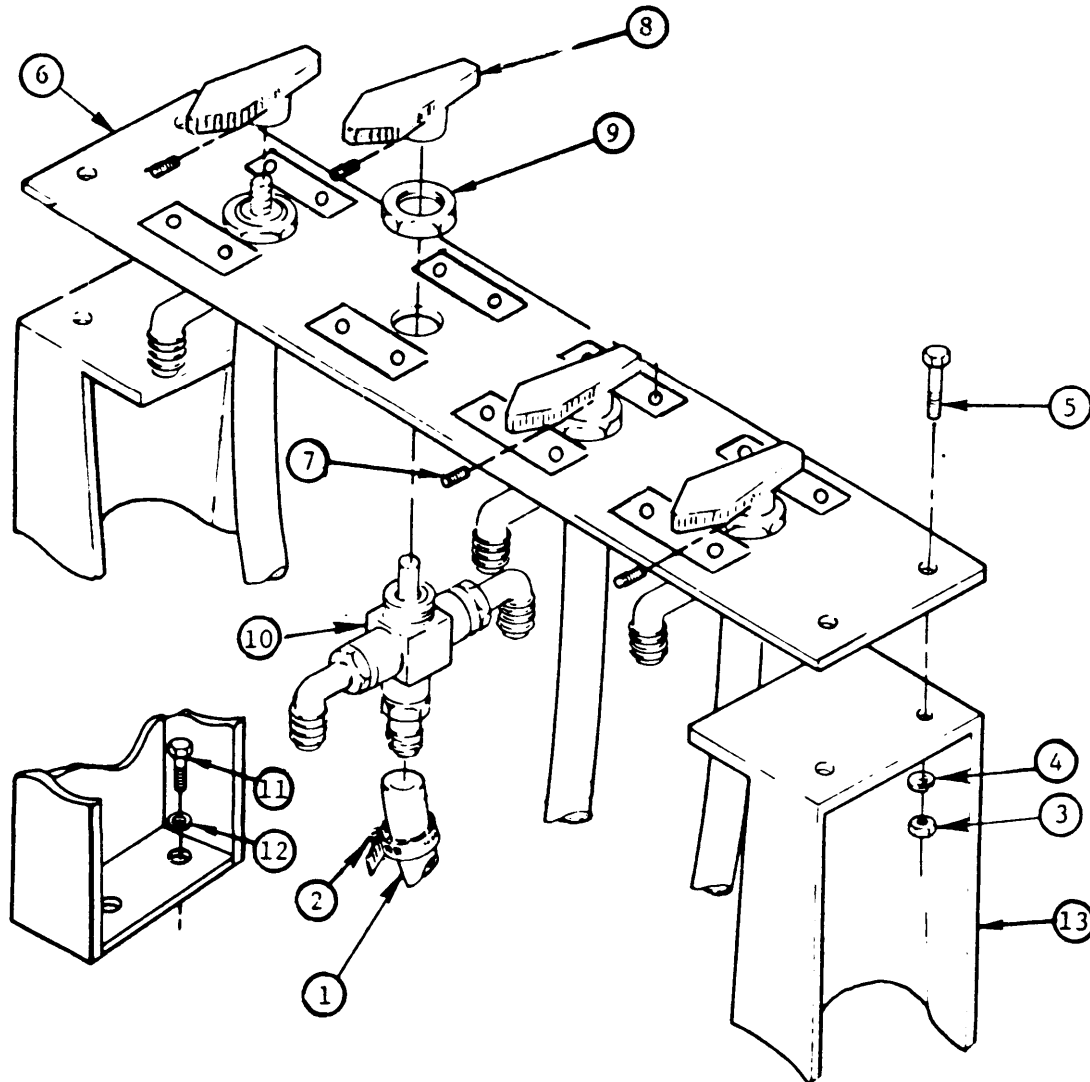
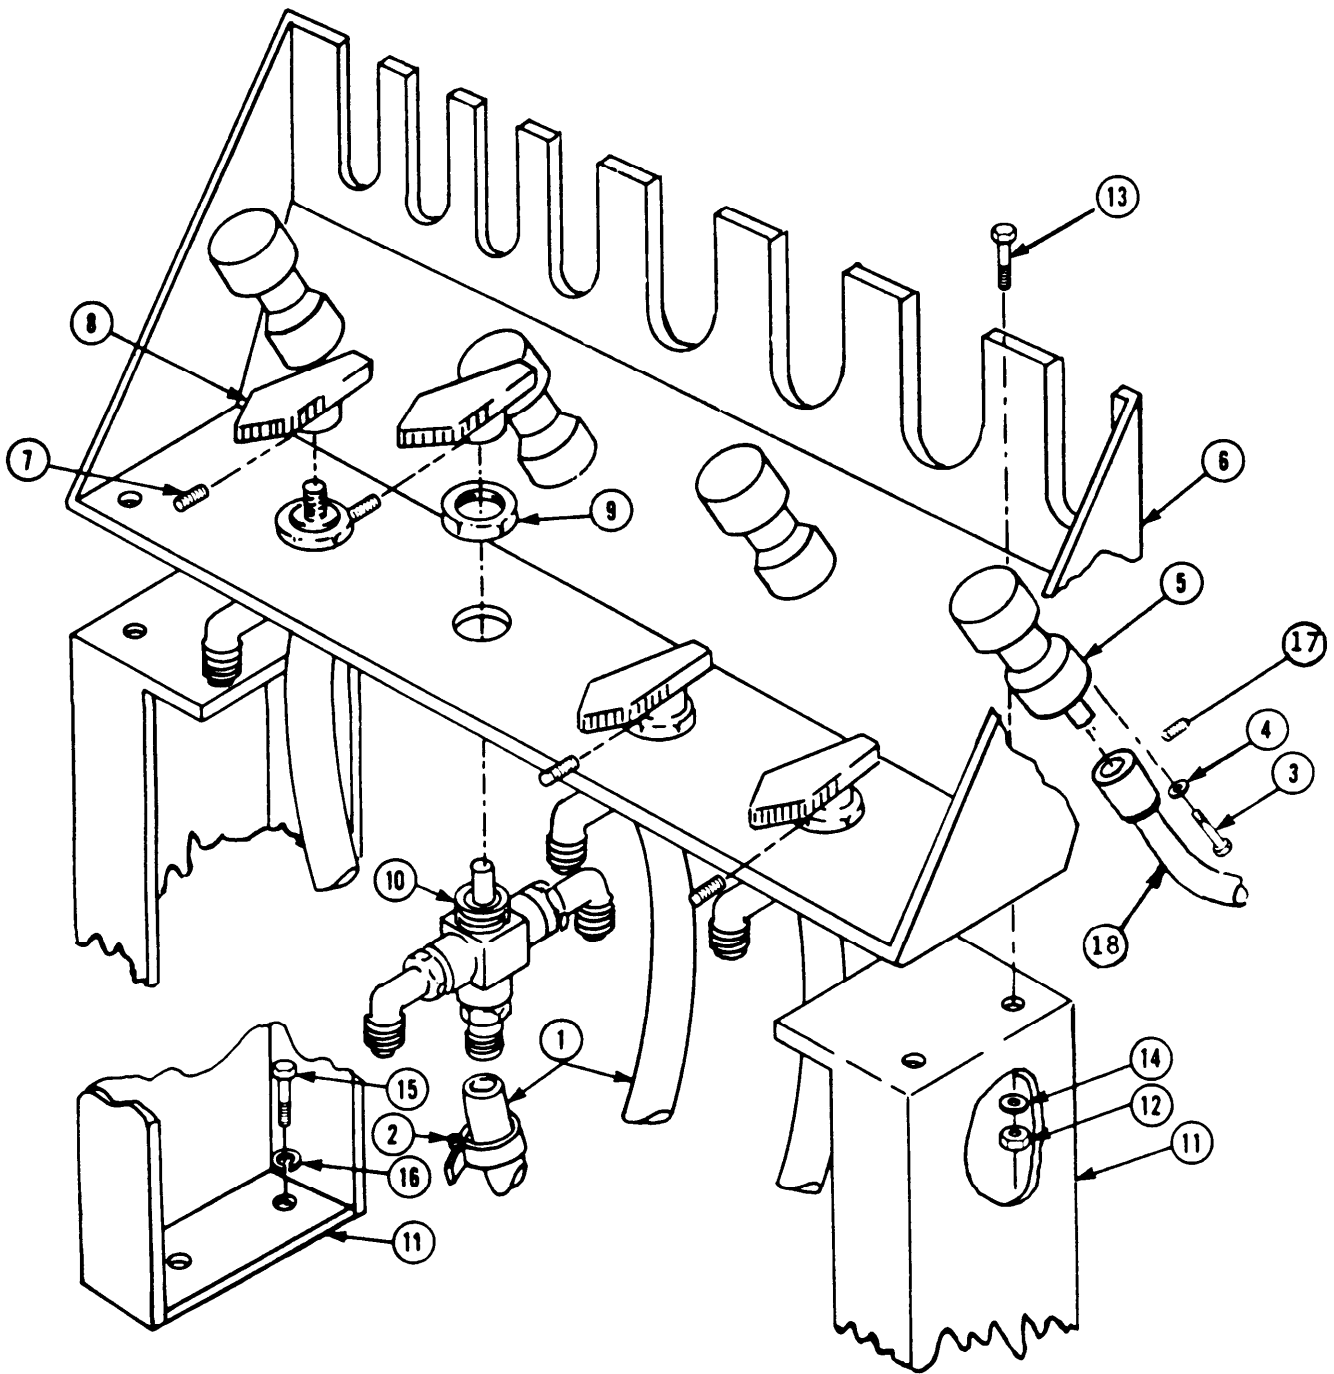

Figure 3-33. Chemical Feed Pump Frame and Valve Assembly (ARMY)
Figure 3-34. Chemical Feed Pump Frame and Valve Assembly (USMC)
b. Removal. (Figure 3-33) (ARMY)
(1) If necessary, remove the chemical feed pump motor in accordance with paragraph 2-48 and the chemical feed pump assembly in accordance with paragraph 2-71.
- (2) Loosen twelve hose clamps (2) holding plastic tubes (1) to valves (10).
- (3) Remove twelve plastic tubes (1) and twelve hose clamps (2) from valves (10).
- (4) Remove four nuts (3) and four lockwashers (4) from bolts (5).
- (5) Remove four bolts (5) and lift off valve mounting panel (6) from two vertical supports (13).
- (6) Loosen four setscrews (7) from four handles (8).
(7) Remove four handles (8).
(8) Remove four panel nuts (9), one from each valve, and remove valve assembly (10) from panel.
(9) Remove four bolts (11) and four lockwashers (12) from base of two vertical supports (13) for chemical feed pump valves as shown in (figure 3-33).
(10) Remove two vertical supports (13).
c. Removal. (Figure 3-34) (USMC)
(1) Replace all hose clamps and plastic tubes.
(2) Replace all damaged nuts, bolts, screws, washers, lockwashers, and setscrews.
(3) Repair, weld, straighten, or replace damaged valve mounting panel (upper frame) and vertical supports.
(4) Replace damaged or unserviceable valve assemblies, valve handles, and valve panel nuts.
(5) Send all removed unserviceable valve assemblies and component parts to next higher level of maintenance for disposition.
(6) Repaint in accordance with Standard Operating Procedures.
g. Installation. (Figure 3-33) (ARMY)
(1) Hold two vertical supports (13) in mounting location or ROWPU frame and align mounting holes.
(2) Install four bolts (11) and four lockwashers (12).
(3) Insert each of four valves (10) through bottom of mounting panel (6) and install four mounting nuts (9).
(4) Slip four handles (8) over valves (10).
(5) Tighten setscrew (7) on each handle (8).
(6) Place valve mounting panel (6) on top of two supports (13) and align mounting holes.
- (7) Insert four bolts (5) through valve mounting panel (6) and two supports (1 3).
- (8) Install four lockwashers (4) and four nuts (3) on bolts (5).
- (9) Install twelve marked plastic tubes (1) and twelve hose clamps (2) on nipples of valves (10).
h. Installation. (Figure 3-34) (USMC)
- (1) Attach vertical supports (11) to ROWPU frame using bolts (15) and lockwashers (16).